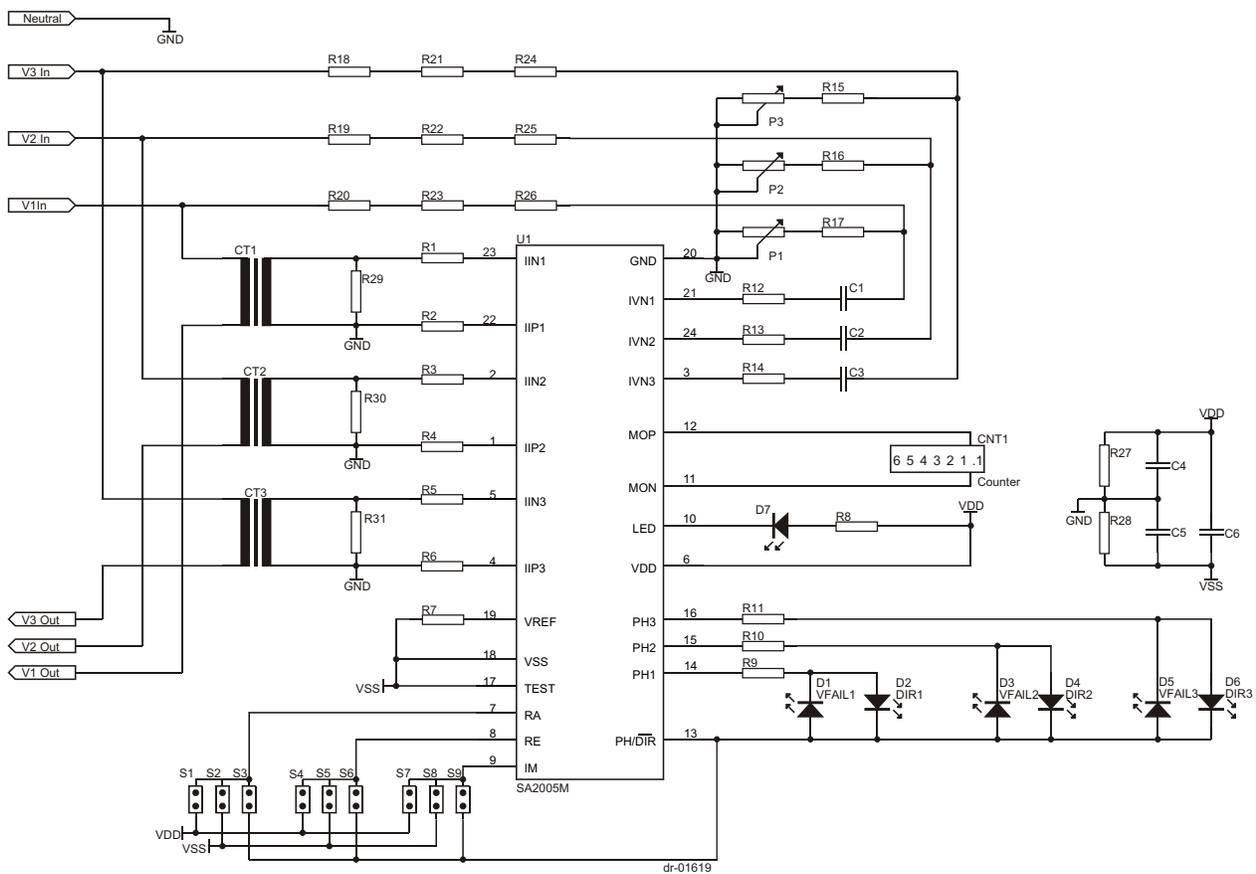

Figure 8: Typical application circuit
**SA2005M****sames****Parts List for Application Circuit: Figure 8**